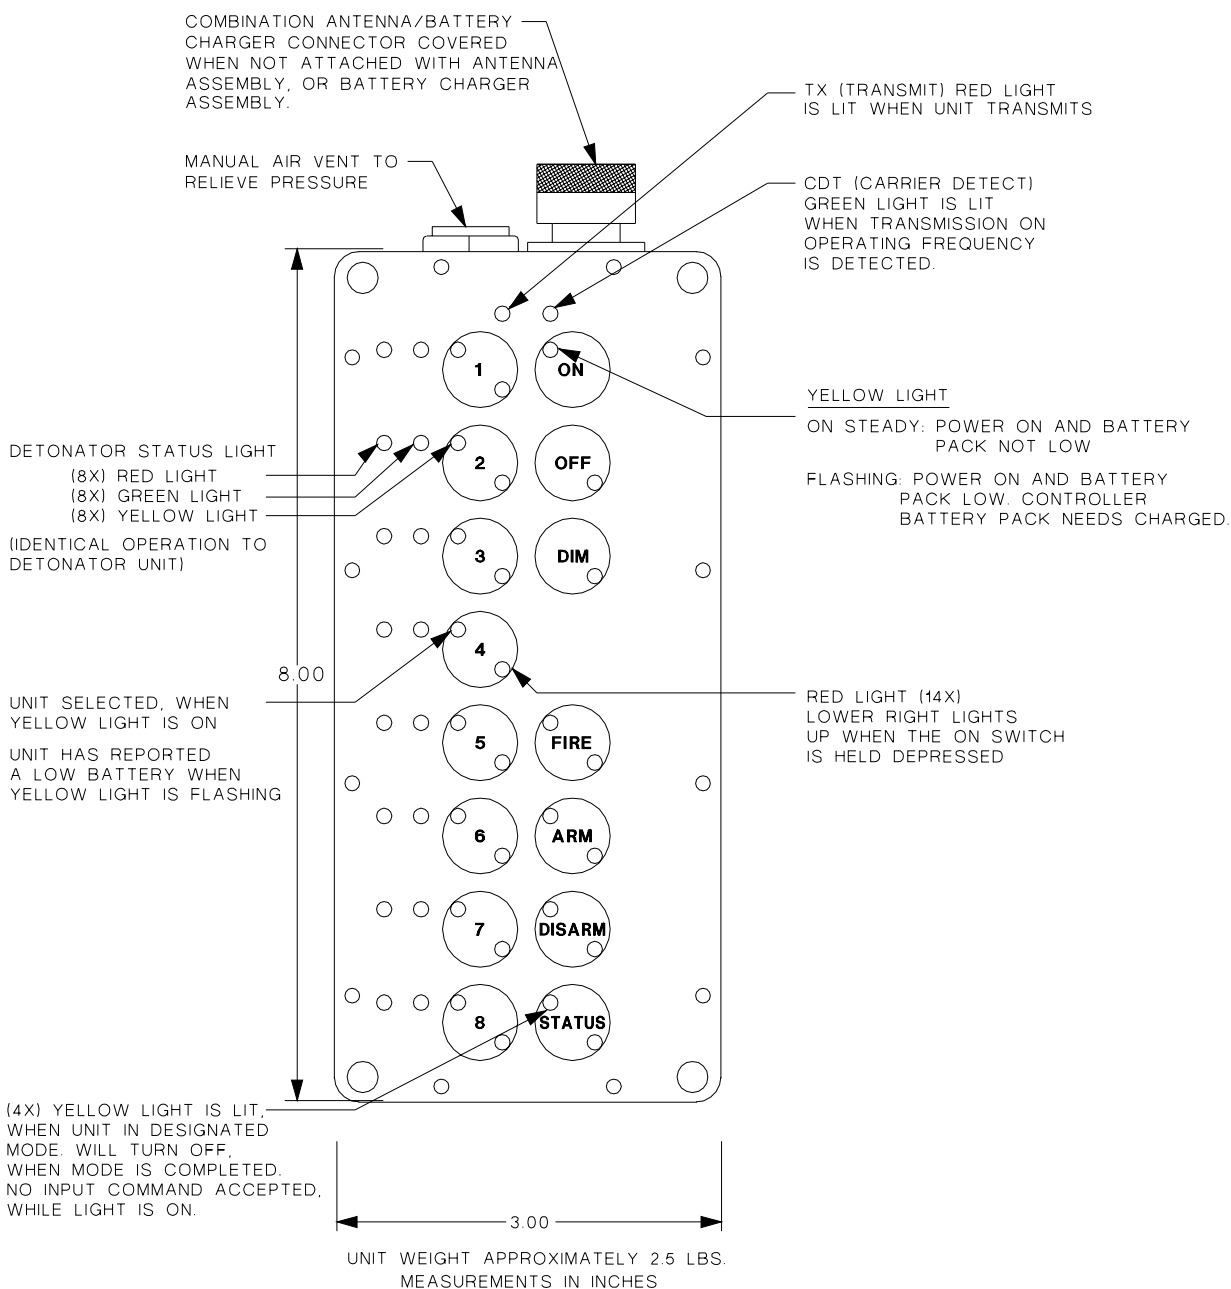

Figure 2-2 Controller Unit.
| Figure 2-2 Controller Unit. ....                                 | 2-7  |
2.2.1. Figure 2-2. Provides the physical size, weight, front panel light, and switch locations on the Controller Unit. The unit is sealed at the Manufacturer or repair depot and should not be opened during field activity.